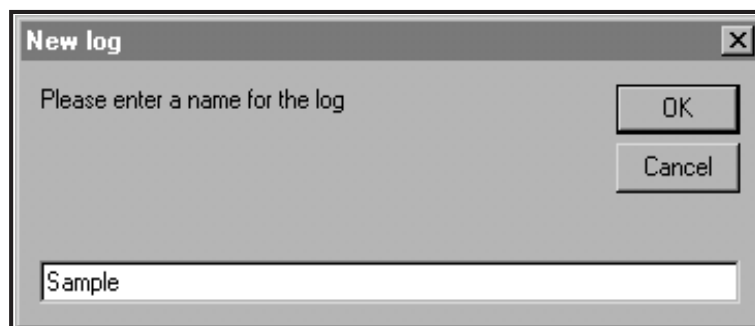

Figure 17: Log Name Dialog Box
5. Enter a log *file name* (“*Sample*” in this case) in the dialog box shown in Figure 17. Click on the [OK] option button.